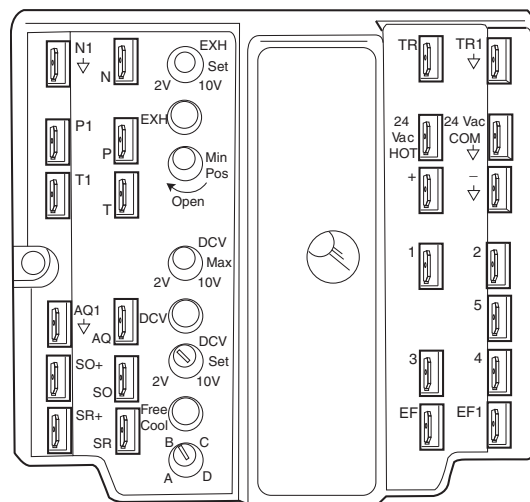

Fig. 13 — EconoMi\$er IV Controller (HH63AW001-W7212 Honeywell Controller)
1. With main power shut off, mark minimum position on EconoMi\$er® IV controller. (See Fig.13.)
- Turn the minimum position potentiometer (MIN POS) on the Economizer IV controller clockwise to open until the exhaust LED (EXH) lights up. (See Fig. 13.)